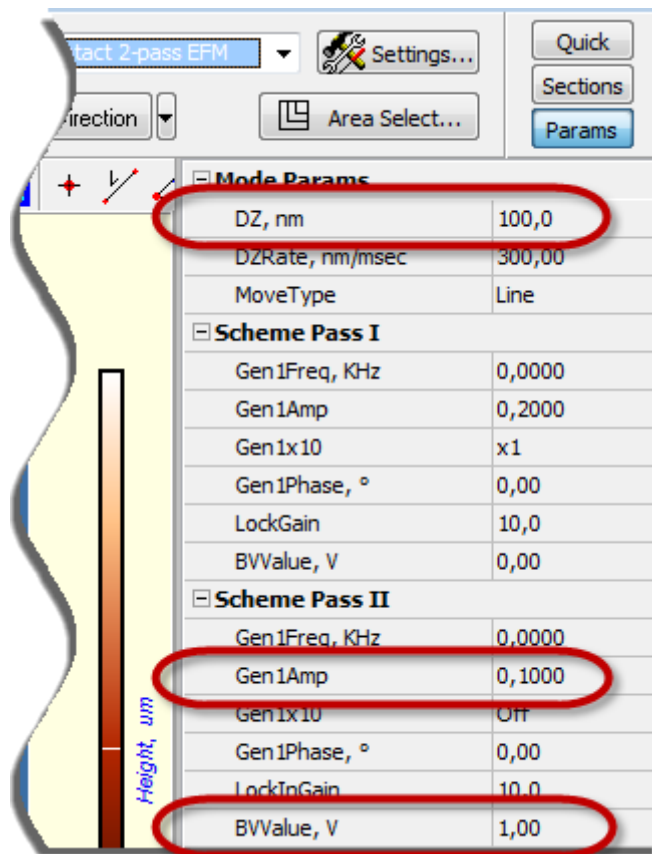

Fig. 9-22. Additional Parameters panel
2. Observe quality of the acquired image and vary the sample-probe distance. This needs modification of the **DZ** parameter in the **Mode Params** group (Fig. 9-22).
3. Observe quality of the acquired image and vary the generator output amplitude. This needs modification of the **Gen1Amp** parameter in the **Pass II** group (Fig. 9-22).
4. Observe quality of the acquired image and vary the bias voltage. This needs modification of the **hvValueBV** parameter in the **Pass II** group (Fig. 9-22).